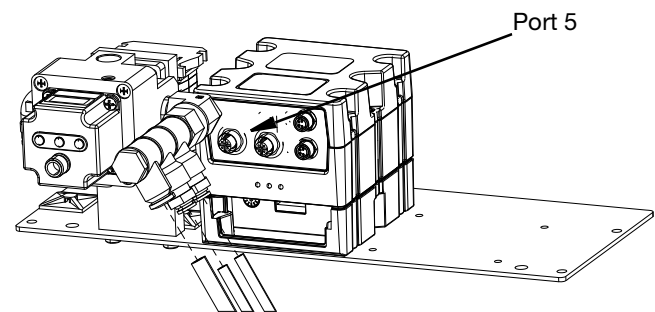

FIG. 9
4. Disconnect connector from port 5 on FCM 1. See FIG. 9.